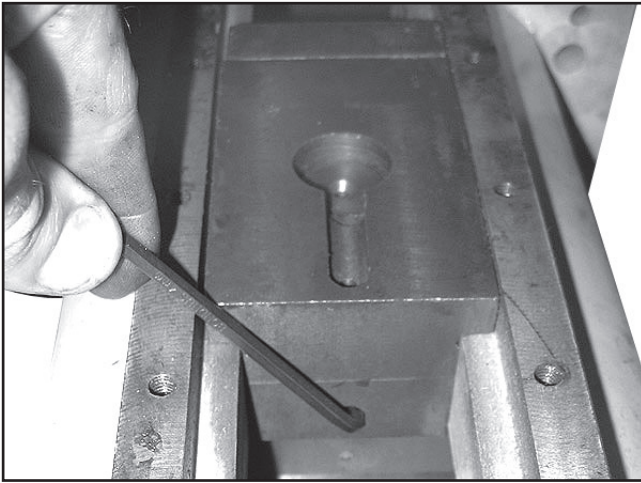

Figure 7. Slide block removal.
- Using a 4mm hex wrench, loosen the slide block set screw. (**Figure 7**).